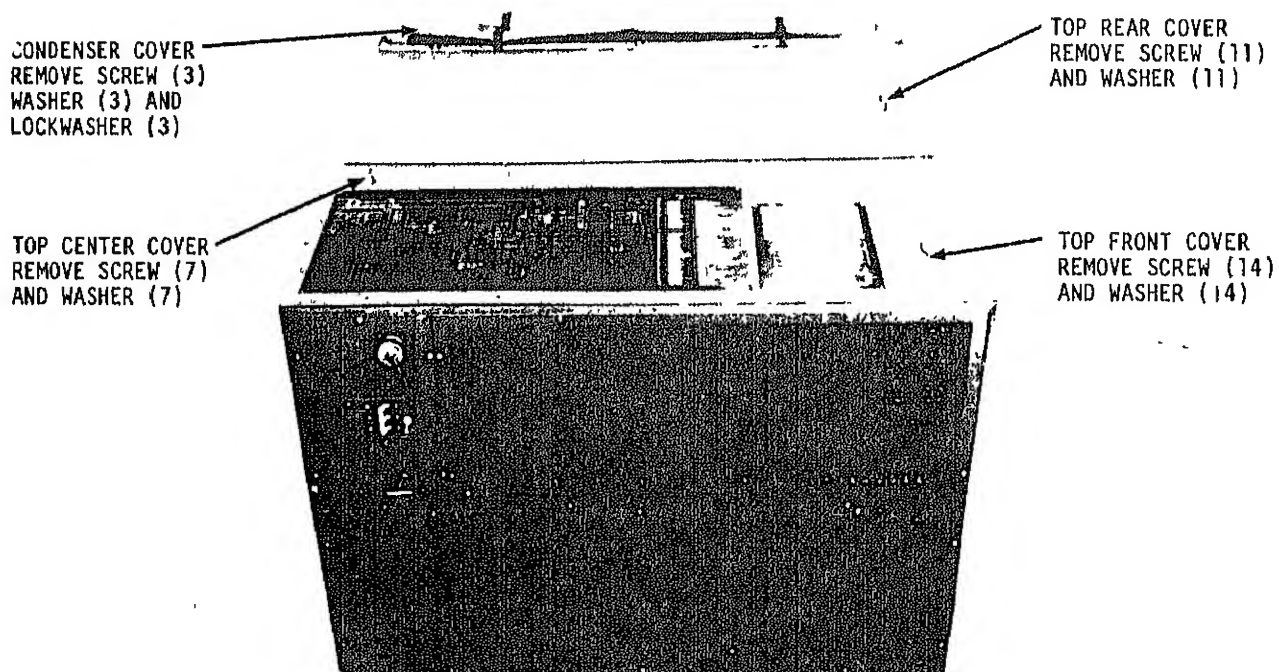

Figure 4-4. Top covers and condenser cover, removal and installation
(1) Refer to figure 4-4 and remove top front cover. Remove this cover first as it provides access to one screw of the center cover that is not visible from the outside.
(2) Remove condenser cover and top rear cover.
(3) Remove top center cover.
c. Installation. Refer to figure 4-4 and install top covers and condenser cover as follows:
(1) Install top center cover.
(2) Install top rear cover and condenser cover.
(3) Install top front cover.
(1) Refer to figure 4-4 and remove top front cover.
(2) Refer to figure 4-4 and replace top front cover.